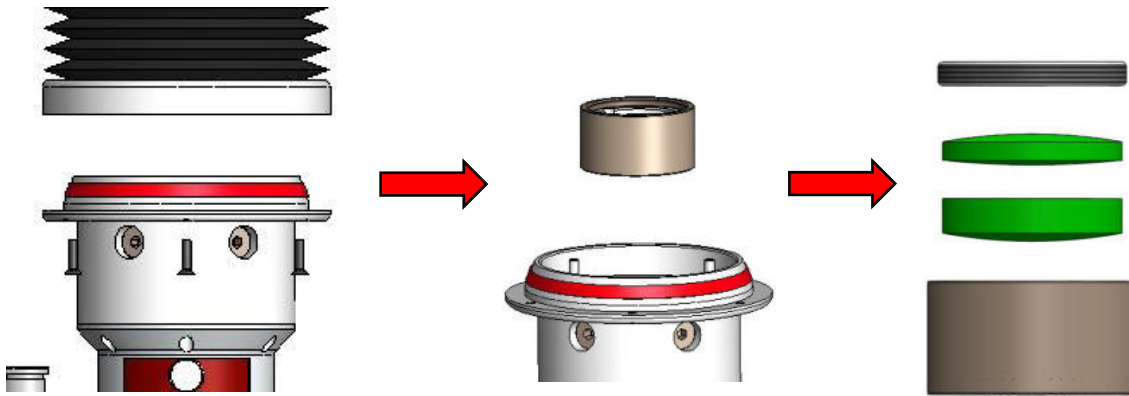

Figure 4.2
① As shown in Figure 4.2, remove the focus lens barrel placement assembly together with the sensor assembly; use a 3mm Allen wrench to remove the centering screws; after taking out the focus lens base, remove the lens clamping ring, take out and replace the lens.